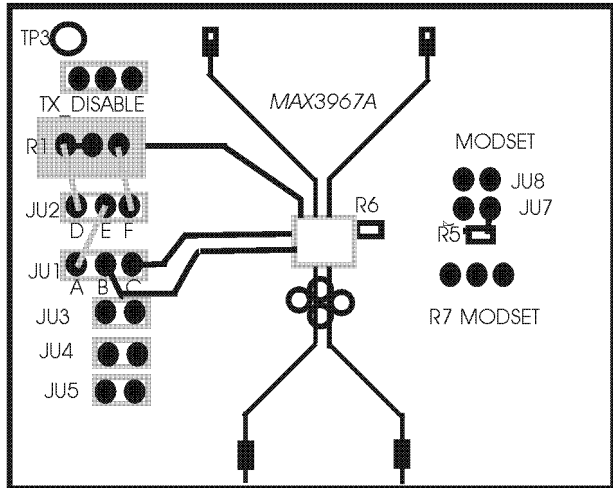

Figure 7. Temperature Coefficient Jumper Table.
- 5) Install a shunt on jumper the right side of JU1 (TCNOM). See Figure 7 for jumper table.